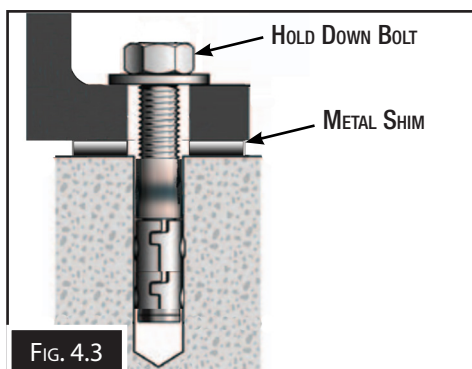

FIG. 4.3
After your machine has been anchored to a concrete slab floor, it then needs to be leveled. Loosen the hold down bolts and place a level on the surface of the working table. Metal shims need to be placed under the corner of the base of the machine until level. Once level then tighten the hold down bolts. (Fig. 4.3).
*The machine must not rest on supports other than those defined in Fig. 4.3*